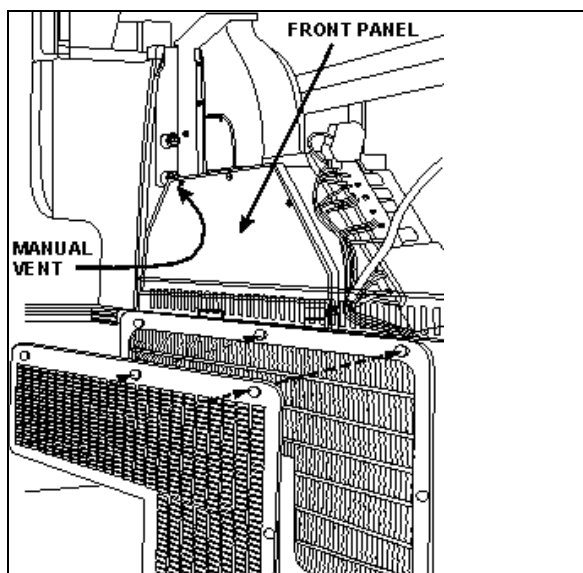
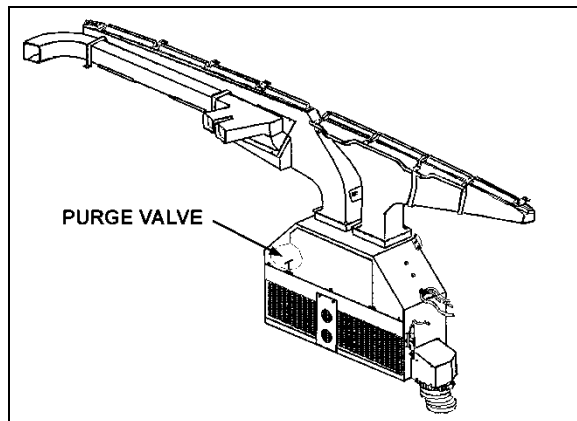
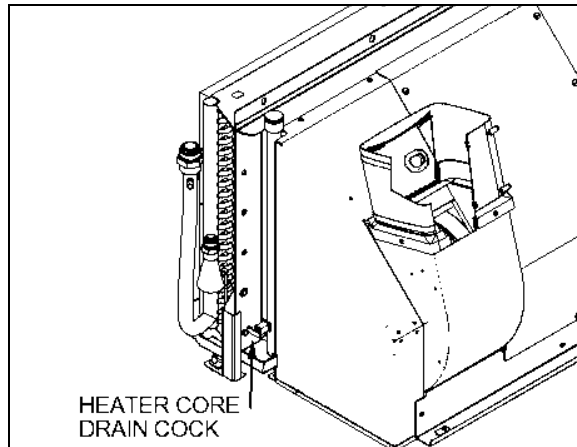

FIGURE 76: DRIVER'S HVAC/DEFROST UNIT
FIGURE 77: DRIVER'S UNIT AIR MIXING BOX 22171PV
FIGURE 82: HEATER CORE DRAIN COCK LOCATION
Fresh air is taken from behind the R.H. side headlights assembly (H3 series) or from a plenum underneath the front service compartment (X3 Series) and enters the mixing box through a ON/OFF damper. Return air is taken through the right console into the mixing box (Figure 77). Mixed air goes through cooling and heating coils, fans and discharge ducts.
4. From inside of vehicle, remove the two finishing panels in front of unit. Remove the three screws fixing the unit front panel. Open the purge valve located inside the driver's unit (Figure 77). If present, open the manual vent located inside the HVAC unit, on the driver's side (Figure 76) to ensure an efficient draining.
4. Open drain cock in bottom of heater core (Figure 82) you can unfasten a hose connection on top of heater core in order to allow air to enter while draining. The main heater core drain cock is located in the evaporator compartment. To access the valve, open baggage compartment door located in front of the evaporator compartment (L.H. side). Open the evaporator compartment access panel.
Whenever the heating system has been drained and refilled, or the system has run low on coolant and coolant has been added, it is necessary to bleed air from heating system. Locate the purge valve illustrated in Figure 77 & Figure 82, and open them momentarily until no air escapes from the lines. If present, open the manual vent located inside the HVAC unit, on the driver's side (Figure 76).